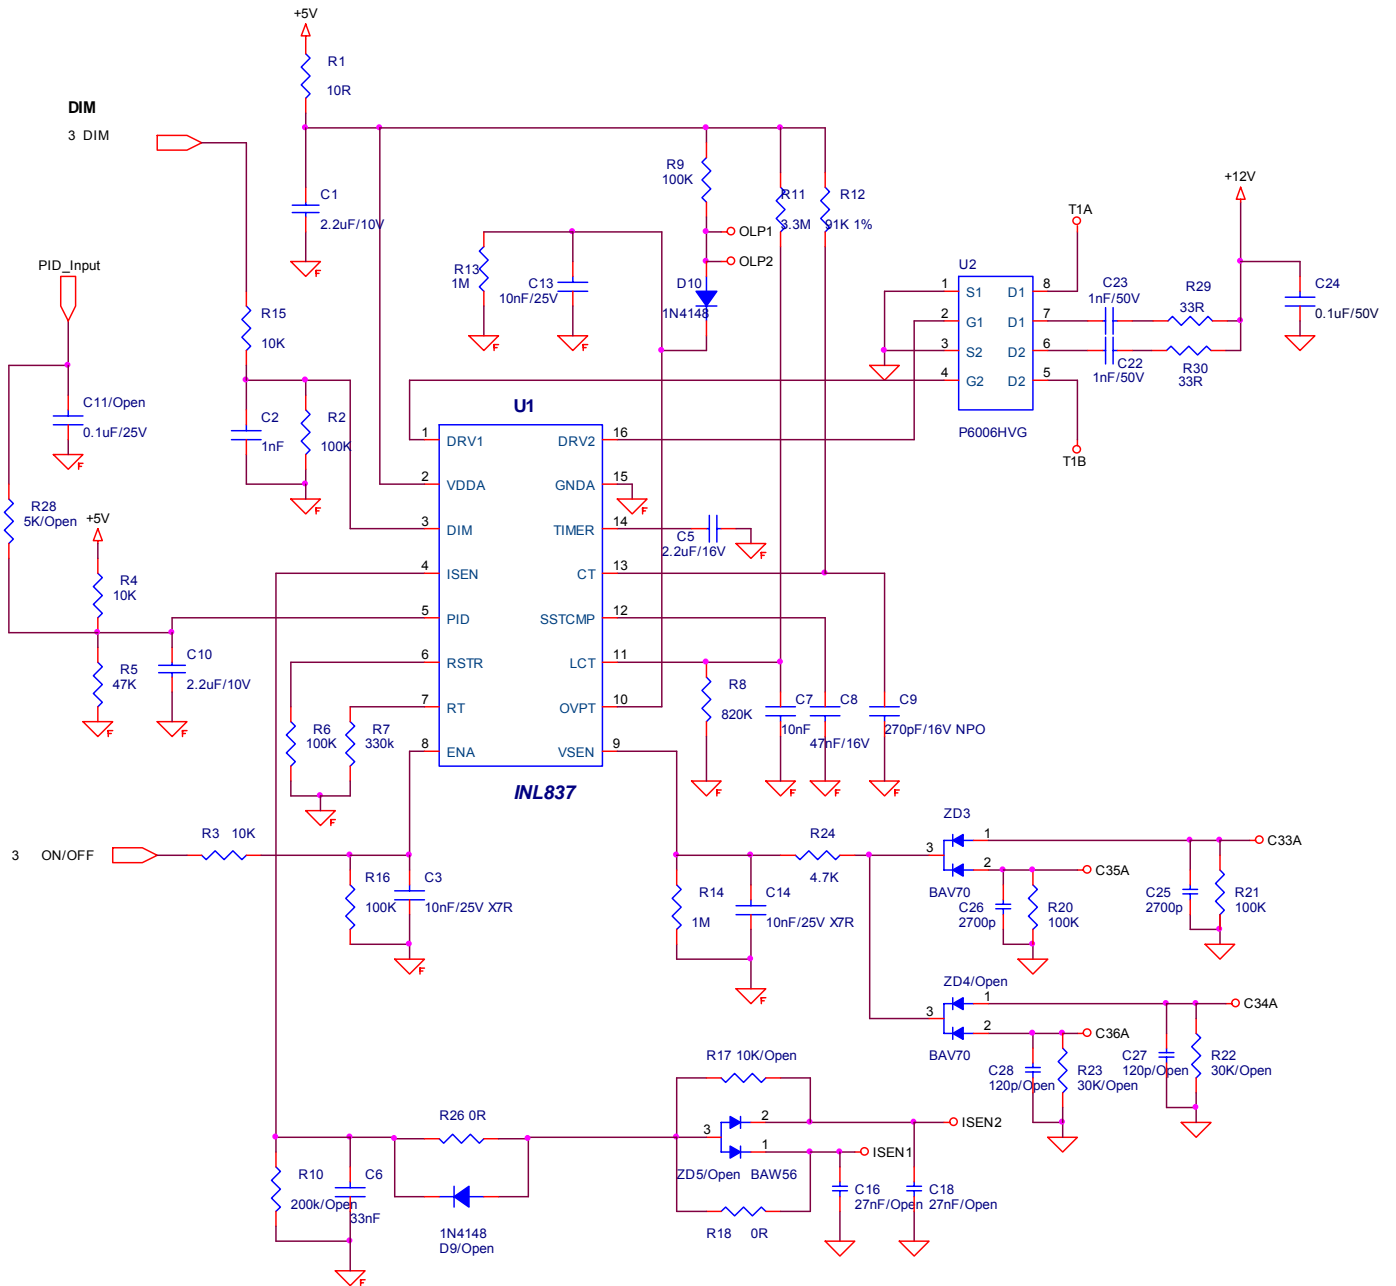

Fig.2
2.1.1) Inverter Control circuit :(fig.2)